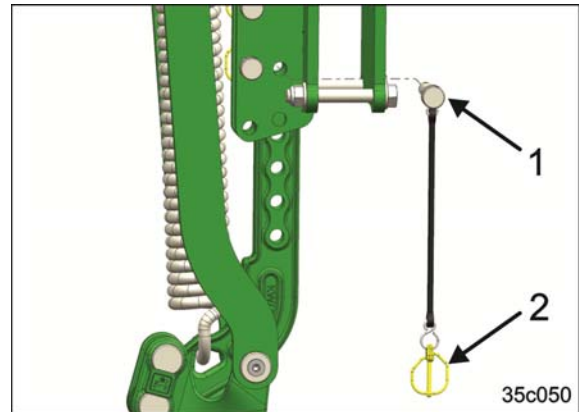

Fig. 123
1. Remove the linch pin (Fig. 123/2)
3. Remove the locking pins (Fig. 123/1)
4. Using the recessed grip, put the tractor wheel mark eradicator into the desired position and insert the locking pin (Fig. 123/1)
5. Secure the locking pin with a linch pin (Fig. 123/2)
4. Remove the tractor wheel mark eradicator from the tractor wheel mark eradicator bracket using the recessed grip (Fig. 123/3).
- Using the recessed grip, put the tractor wheel mark eradicator into the desired position (Fig. 123/3).